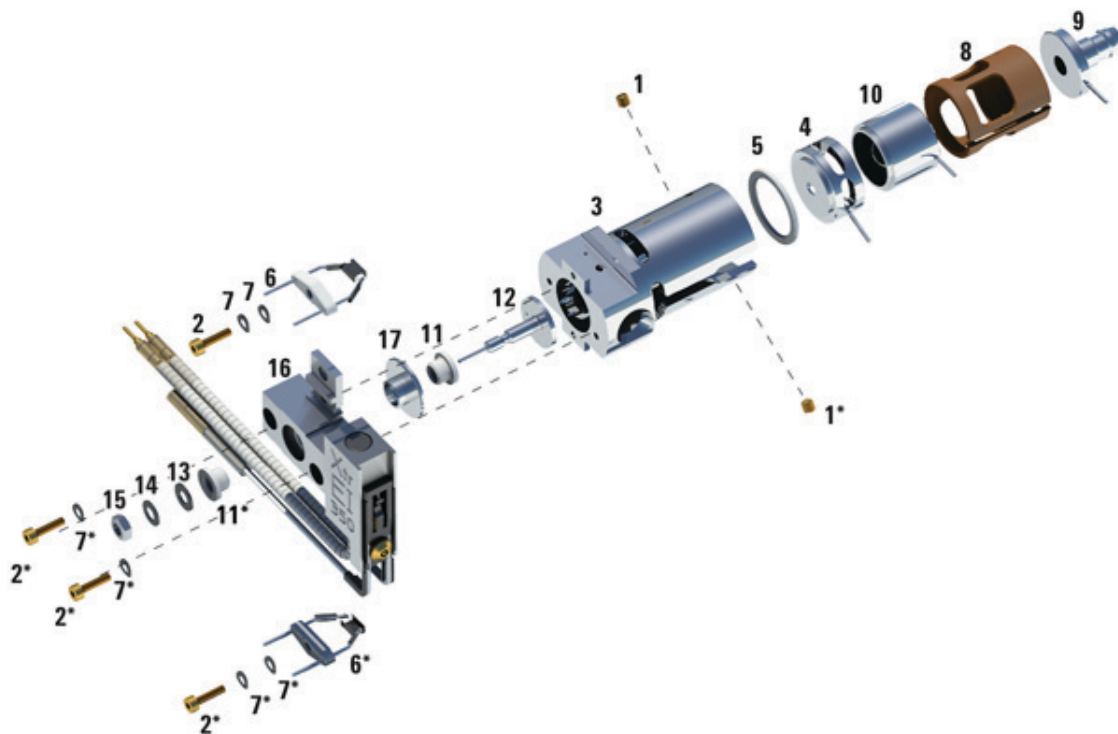

Figure 68. Assembling the EI XTR source
Refer to the exploded parts view **Figure 68** and EI XTR parts list **Table 23** on page 213 while using this procedure.
- 3 Insert the entrance lens and ion focus lens into the insulator in the order shown in **Figure 68** on page 213.
Table 23 Parts list for EI XTR source (Figure 68)
Table 23 Parts list for EI XTR source (Figure 68) (continued)